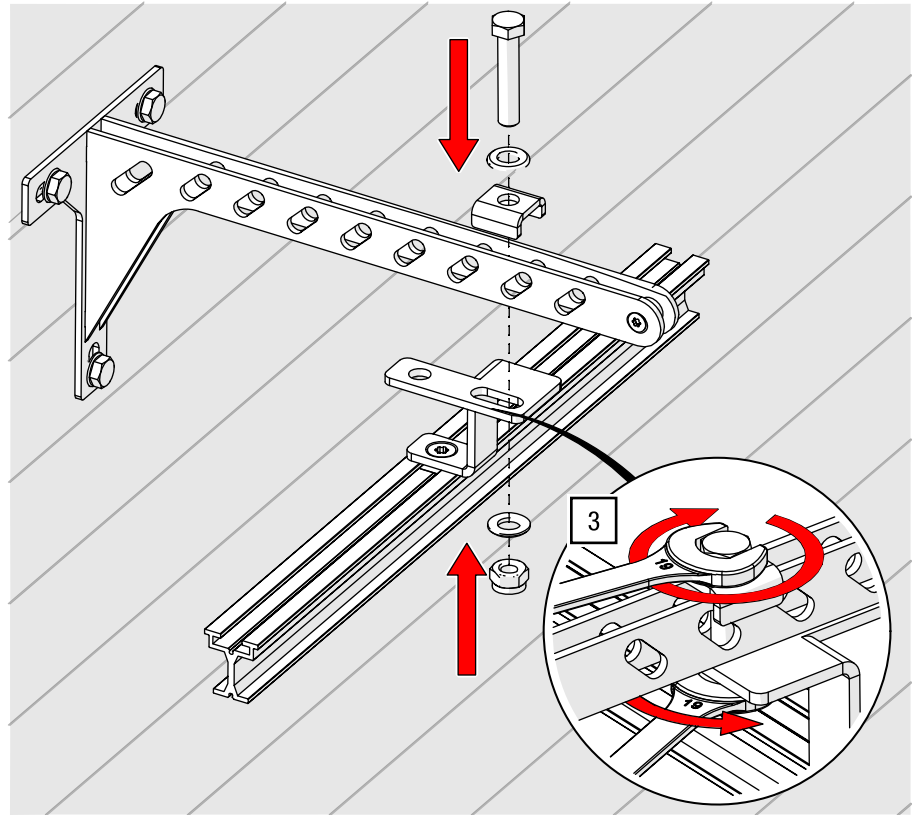

Fig. 71: Screwing the wall mount bracket to the suspension for cord operation
3. Place the U-sheet metal on the wall mount bracket with the open side facing downwards and screw it to the suspension for cord operation using two open-end wrenches AF 19 and 93 Nm (see Fig. 71).